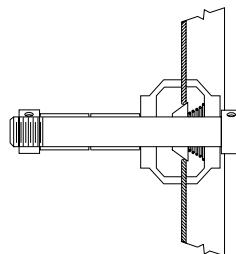

Figure 12
A. When machining rear hubless drums, use the 90526 Floating Drum Attachment (Optional 90559 or 90560 Truck Face Plate Set if truck drums are to be machined), select the proper cone to fit the center hole in the drum. Follow the illustration as shown in **Figures 12 & 15**.